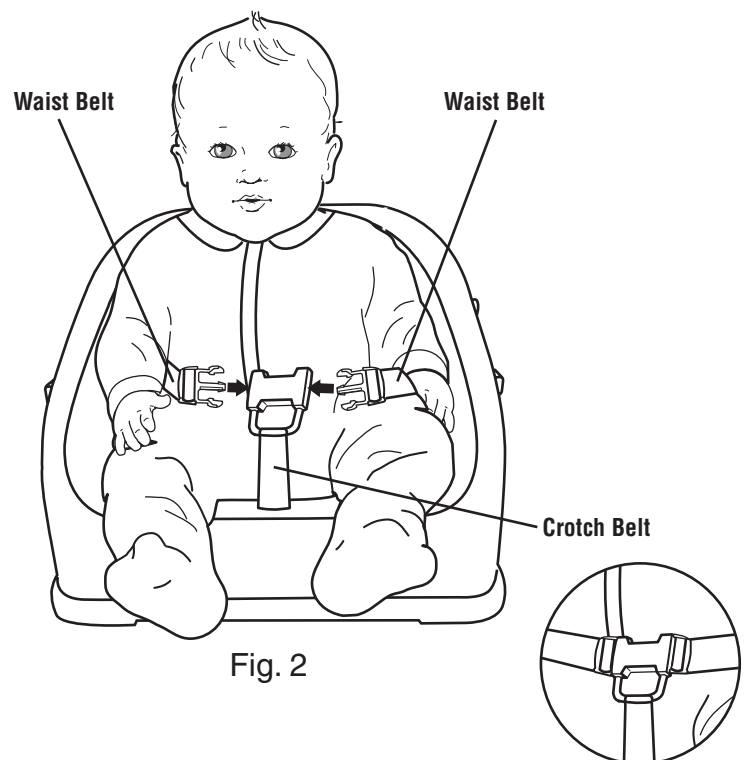

Fig. 2
2. Place child into floor seat and securely fasten into seat with harness. To tighten harness position the crotch belt between your child's legs. Fasten both waist belts to the buckle on each side of the crotch belt. Make sure you hear a "click" on both sides. Check to be sure the restraint system is securely attached by pulling it away from your child. The restraint system should remain attached (Fig 2).